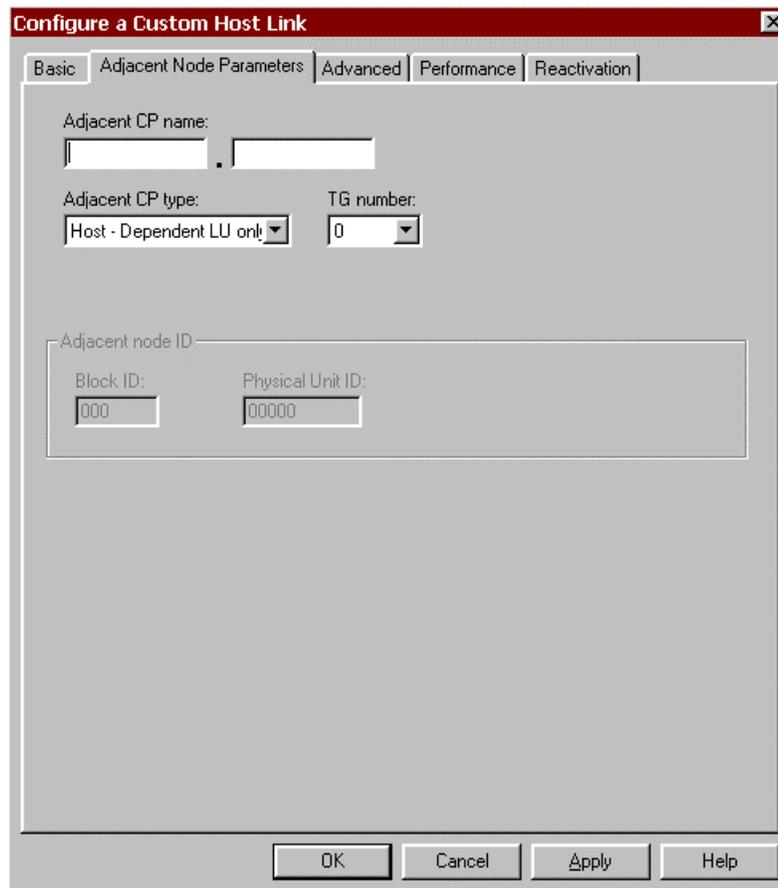

Figure 10-15. Configure a Custom Host Link - Adjacent Node Parameters
- **Host link name(PU profile name):** A default name will be automatically assigned by the system. You may accept the default, or enter your own name up to eight (8) characters in length. Host link name is the PU Profile or Service Name required by an IPX (QEL/MU) client emulator.
- **Port name (adapter):** By default the first custom data link adapter defined will be displayed. Select the adapter you wish to associate with this Host Link (PU) from the pull-down list. Keep in mind that the ESCON adapter associates the PU to the sub-channel address used to communicate with the host.
4. Click the **Adjacent Node Parameter** tab (Figure 10-15) to continue.